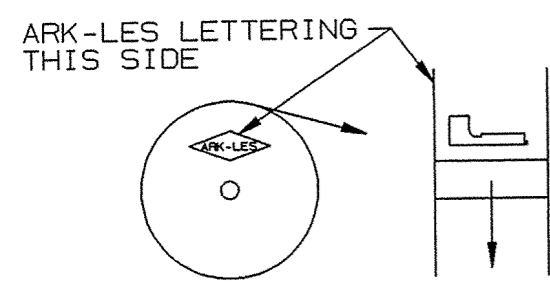

FIGURE 1
6. FOR STANDARD REELING SEE FIGURE 1.